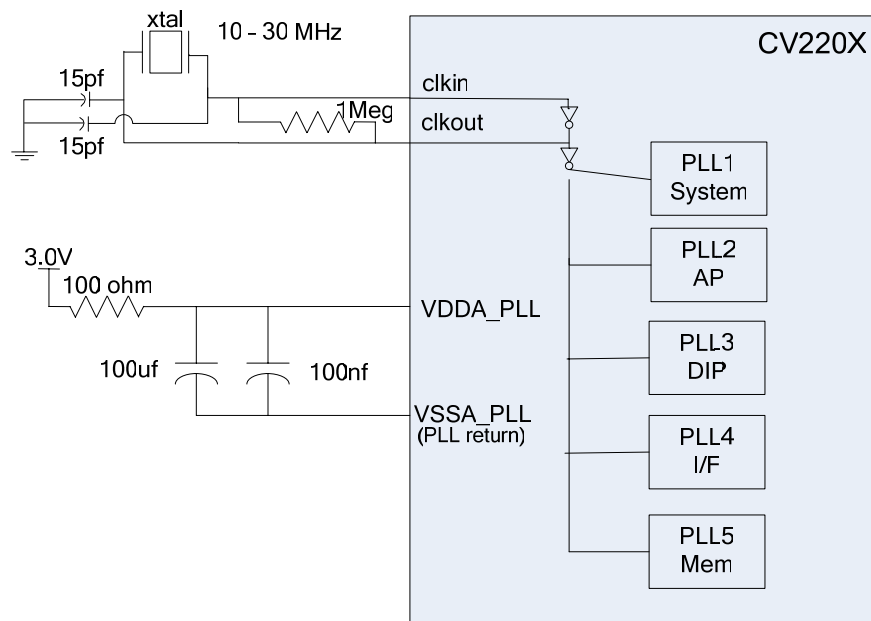

Figure 17: Crystal Connected to CV220X
* See Figure 17 for VSSA_PLL connectivity
The timing generation block provides and manages the clocks required by the internal logic and IP blocks. The clocks are produced from an internal PLL. An onboard crystal oscillator or an external clock provides the input clock to the PLL. Figure 17 shows the connection between crystals and the CV220X. If the clock source is the baseband processor or an oscillator, the clock output signals are not connected.